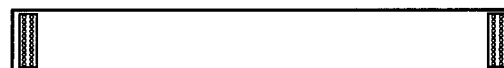

Fig. 1-6
- Flexible Cable (Part Number: YWV0EA0292AN 3 pieces) for between Rear Board and Mother Board as shown in Fig. 1-6.